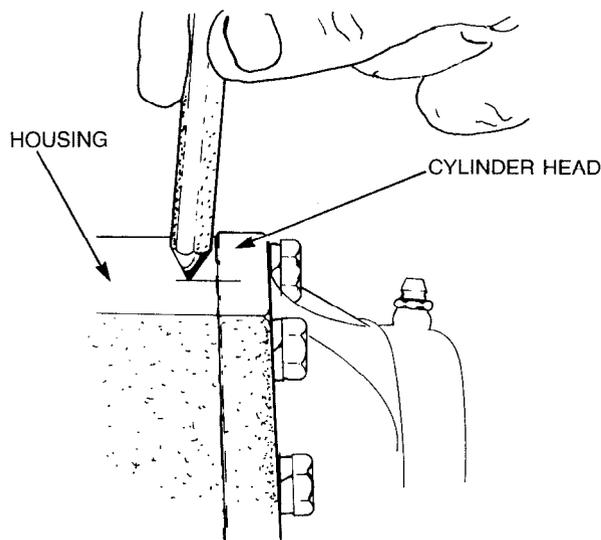

Figure 262 — Marking the Cylinder Head and Housing
- b. Match mark the bearing cap, cylinder head and the housing to assist during reassembly (see Fig. 262).